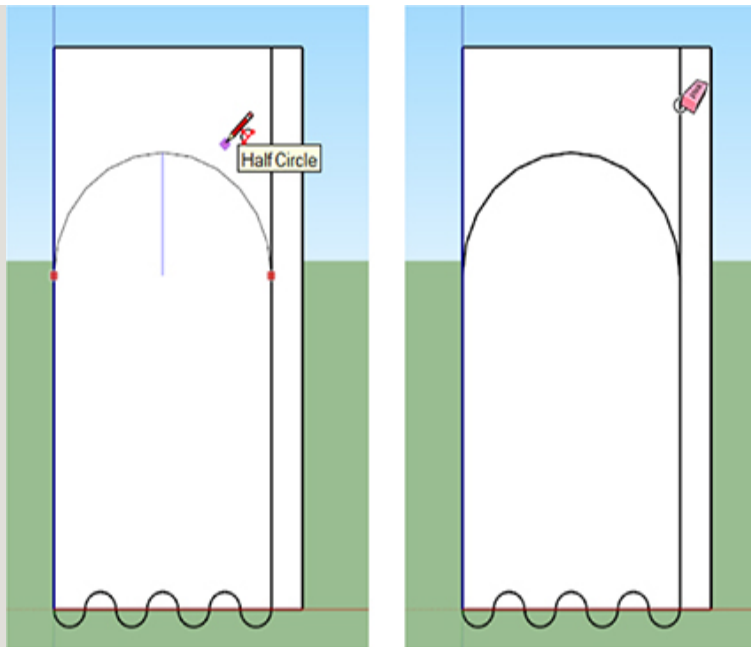
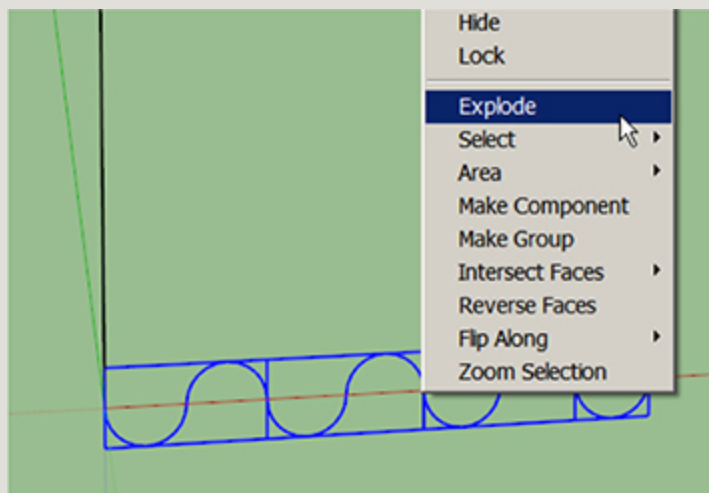

Figure 4-60 Draw the ghost's head.
Figure 4-61 Explode the ruffle groups.
4. Draw the ghost's head (Figure 4-60). Use the Two Point Arc to draw a half-circle, and then trim the sides as needed. You can use the Eraser, but SketchUp 2015 lets you trim it with the Two Point Arc, too. Doubleclick on the extra part of the line as soon as you finish drawing the arc, right-click, and choose Erase. Then erase the block behind it, and explode the ruffle groups at the bottom (Figure 4-61). You'll be left with an outline. If there are some lines and planes inside it, erase them, too.